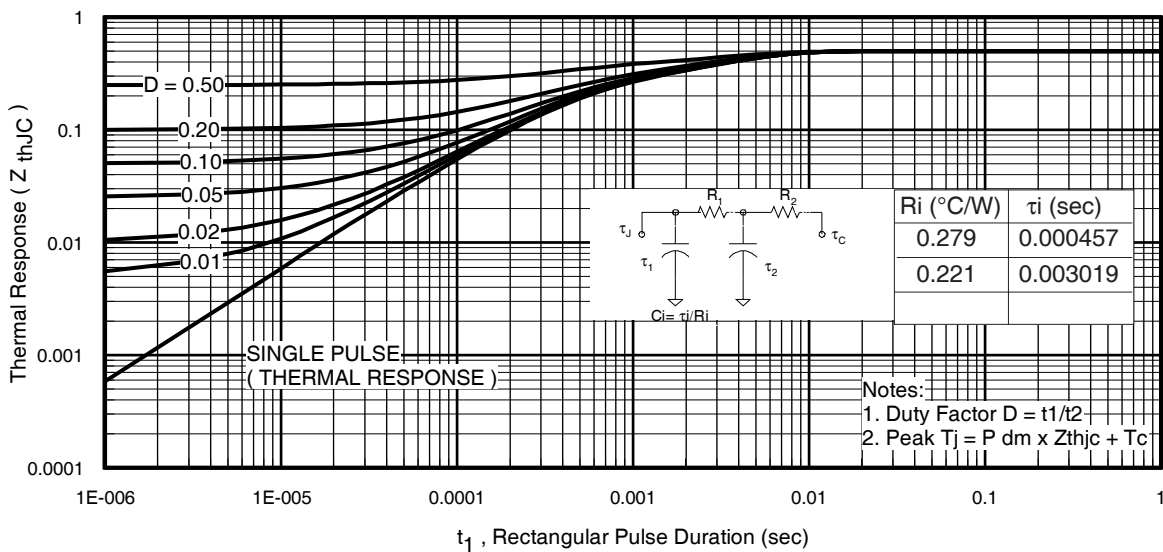

Fig 11. Maximum Effective Transient Thermal Impedance, Junction-to-Case
- ① Repetitive rating; pulse width limited by max. junction temperature. (See fig. 11).
- ② Limited by T_{Jmax} , starting $T_J = 25^\circ\text{C}$, $L = 0.095mH$, $R_G = 25\Omega$, $I_{AS} = 75A$, $V_{GS} = 10V$. Part not recommended for use above this value.
- ③ $I_{SD} \leq 75A$, $di/dt \leq 340A/\mu s$, $V_{DD} \leq V_{(BR)DSS}$, $T_J \leq 175^\circ\text{C}$.
- ④ Pulse width $\leq 1.0ms$; duty cycle $\leq 2\%$.
- ⑤ $C_{oss\ eff.}$ is a fixed capacitance that gives the same charging time as C_{oss} while V_{DS} is rising from 0 to $80\% V_{DSS}$.
$Z_{thJC}(D, t_{av})$ = Transient thermal resistance, see figure 11)